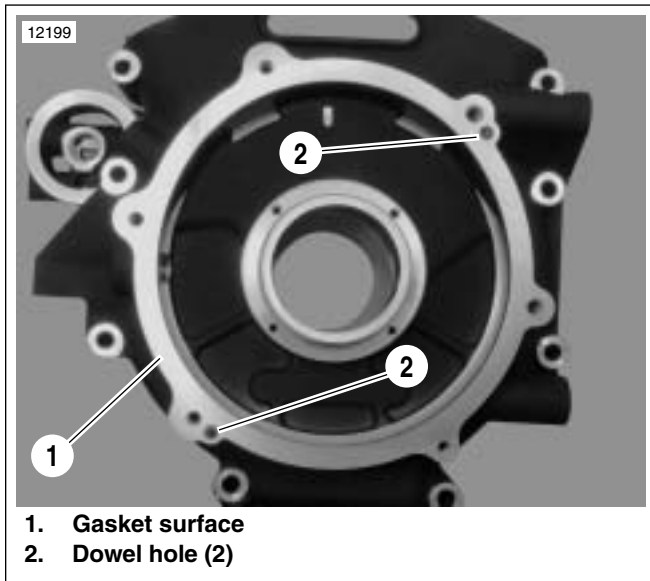

Figure 16. Crankcase
29. See Figure 16. Position **new** crankcase gasket (Part No. 34934-06 from recall parts kit) in place on gasket surface (1). Be sure dowels in gasket engage dowel holes (2) in crankcase.